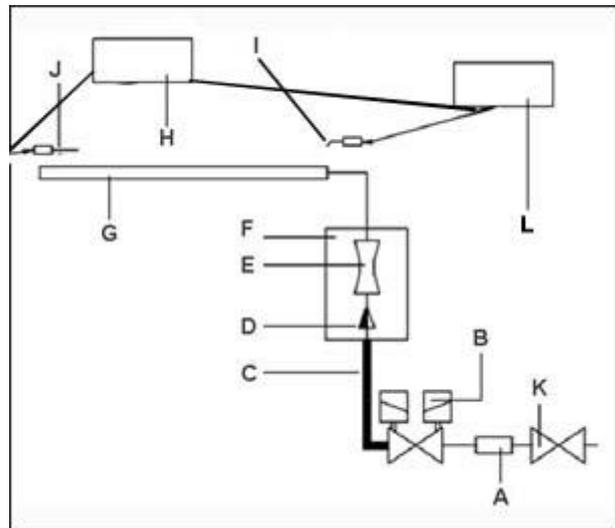

Fig. 1.2
**Diagram of the AGA burner (Fig. 1.2)**